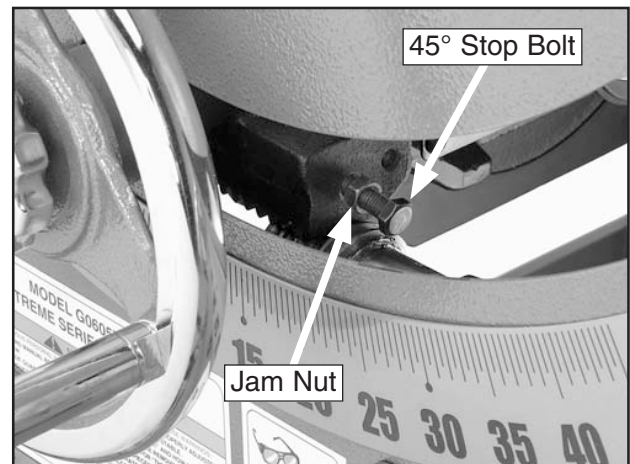

Figure 126. 45° stop bolt and jam nut.
5. Loosen the jam nut on the 45° stop bolt (see **Figure 126**) with a 13mm wrench, then adjust the stop bolt up or down according to how far off the blade was from 45°.